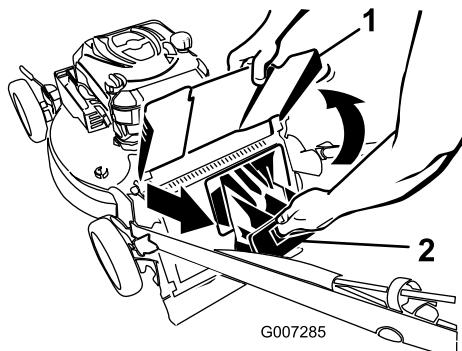

Figure 32
1. Raise and hold up the discharge deflector (Figure 32).
2. Pull out the rear discharge plug (Figure 32).